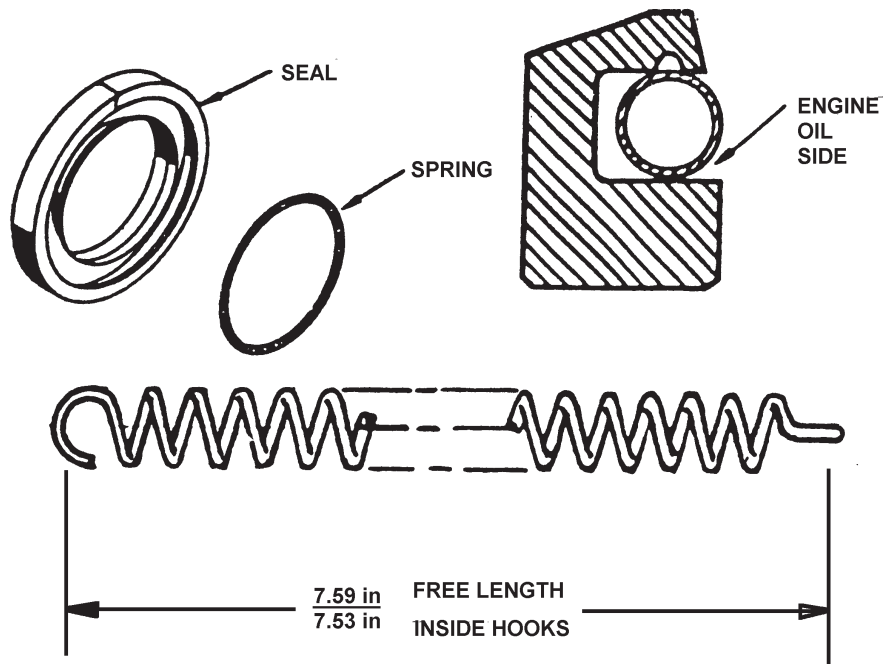

Figure 10-45. Split Nose Oil Seal Parts
3. Remove the spring (Figure 10-45) from the new crankshaft nose oil seal assembly and unhook the spring ends.
4. Verify the seal spring length is 7.53” to 7.59” as illustrated in Figure 10-45. If the spring length is not within this tolerance, replace it.